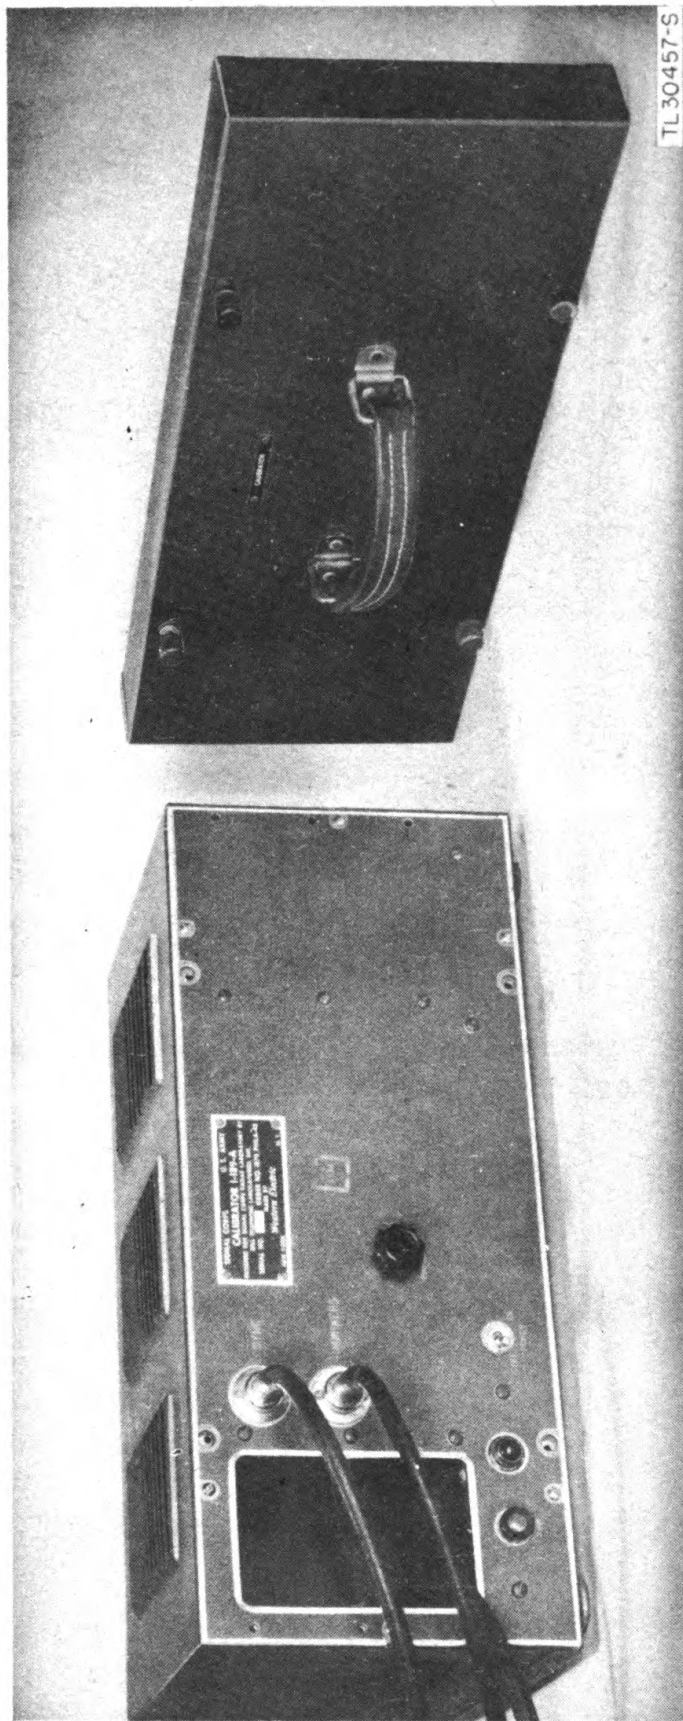
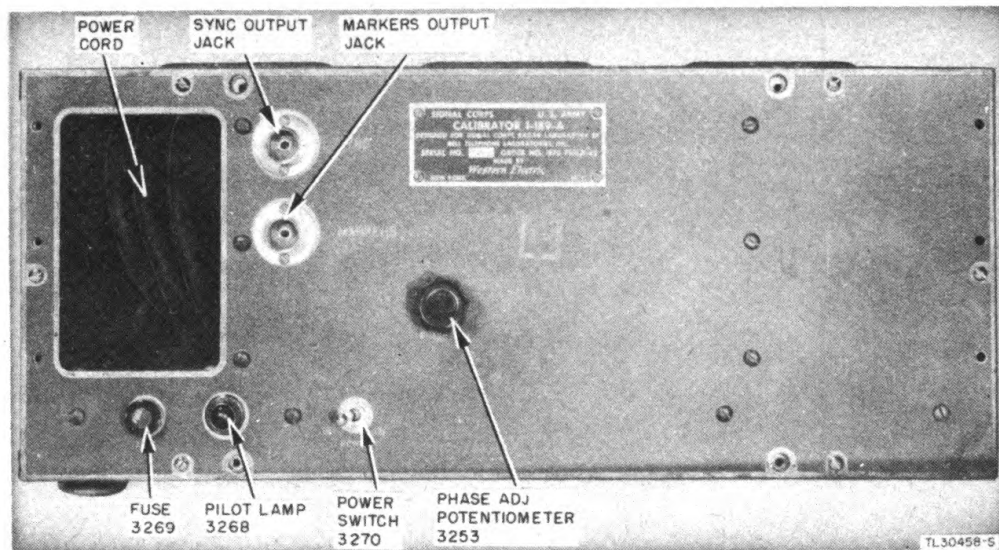

Figure 1. Calibrator I-189-A.
Figure 2. Calibrator I-189-A, front view.
Calibrator I-189-A is a range calibrator for pulse-triggered range oscilloscopes (fig. 1). The oscilloscope sweep is triggered at approximately 480 cycles per second (cps), and the range is calibrated by direct comparison with 500-yard calibration markers. The unit is a portable, self-contained instrument. It contains a crystal-controlled, 327.80-kilocycle (kc) oscillator which furnishes the 500-yard markers and the 480-cps synchronizing pulse outputs. Two coaxial cables for connecting the instrument to the set to be calibrated are provided.
The calibrator is mounted in a steel case painted olive drab (fig. 1). When the instrument is not in use, the front panel is covered by a lid on which the carrying handle is mounted. The controls, fuse, pilot light, and output jacks are mounted on the front panel (fig. 2). The power cord is permanently attached to the chassis and is stored in the cord box on the left side of the panel when not
- a. Set the calibrator in position where it is to be used and remove the lid by loosening the four thumbscrews which hold it to the chassis (fig. 1).
- b. Plug the line cord into the a-c line and turn on the POWER switch (fig. 2).
- c. Connect the SYNC output connector (fig. 2) to the sync input of the range oscilloscope using one of the coaxial cables provided.
- d. Connect the MARKERS output connector (fig. 2) to the video input of the range oscilloscope using one of the coaxial cables provided.
With the calibrator connected as explained in paragraph 6, 500-yard precisely spaced range markers appear on the range oscilloscope of the radar set. The range is calibrated by adjusting the sweep or gating circuits in the range unit so that the range indications on the radar set agree with the standard calibration markers. The PHASE ADJ control on the calibrator (fig. 2) is used to adjust the phase of the markers so that one of them coincides with the range notch, the beginning of the range sweep, or some other reference point on the range oscilloscope. For detailed information on calibration of a radar range circuit see the service manual for the particular set.
(a) Loosen the four captive thumbscrews in the cover and remove the cover (fig. 1).
(b) Remove the screws around the edges of the front panel (fig. 2) and slide the chassis carefully out of the case.